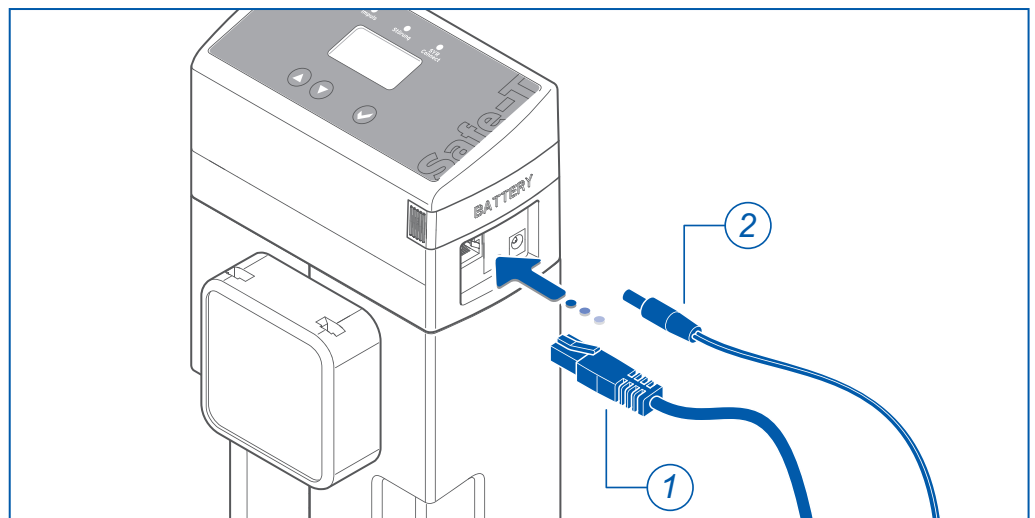

Fig. 5: Connections to the Safe-T Connect
- ▶ Connect a network cable (1, fig. 5) and the mains adapter (2) to the Safe-T Connect.